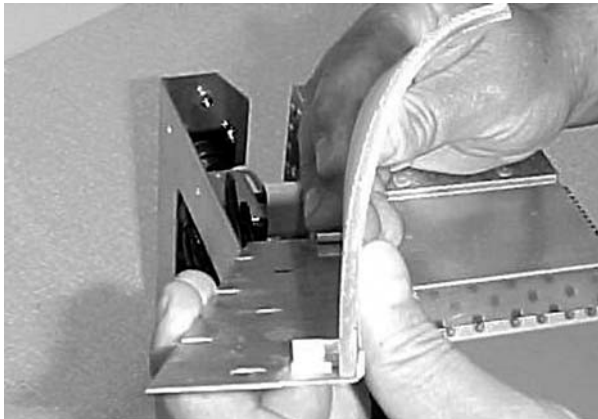

Figure 4-7 Flood Reflector Curve and Retaining Bracket
**Flood Reflectors:** See Figures 4-7 and 4-8. The edge of the reflector will sit on the retainer springs on the inside edge of the bracket.